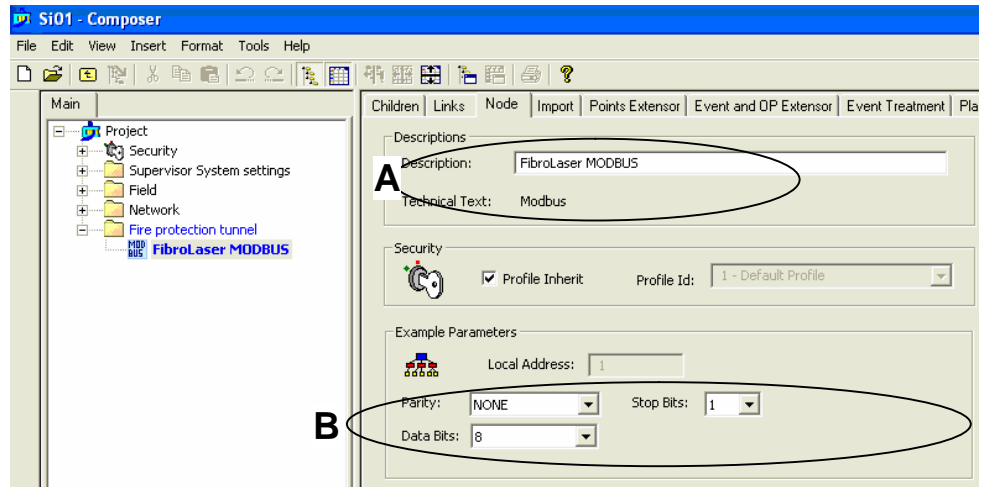

Fig. 20 Setting MODBUS mode (subtype) and the ‘Unit Address’
2. Click the Node tab (see Fig. 20).